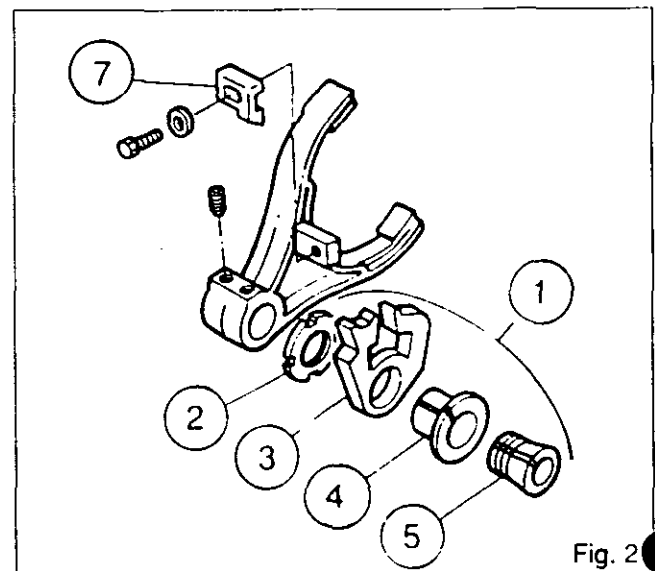

Fig. 2
- 21. Remove the slider (7) (Fig.2).
- 7. Remove the slider (7) (Fig. 2).
- 10. Remove the latch assembly (1) (Fig. 2)
- 11. Remove and clean (Fig.2) :
- the castellated nut (2)
- the latch (3)
- the tapered bearing (4)
- the cone (5)